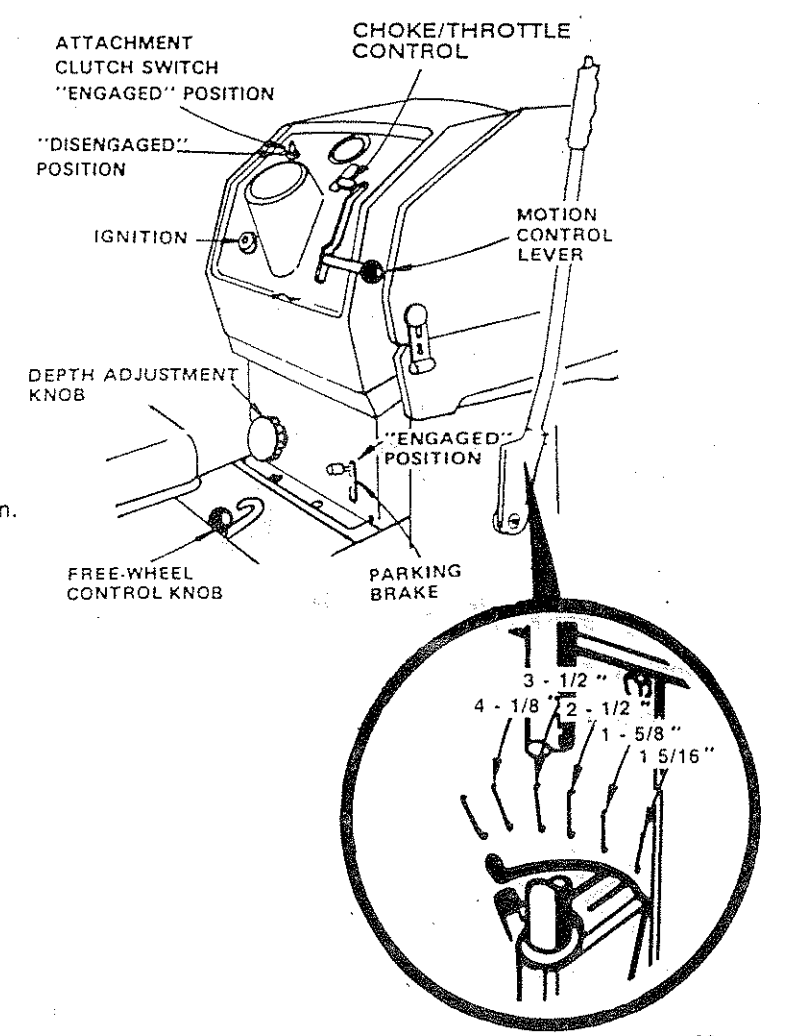

FIGURE 36
Your 38" Mower installs without the use of tools. Raise Lift Lever to its highest position. Turn Depth Adjustment Knob to lowest position (Fig. 36).
### DEPTH ADJUSTMENT (Fig. 36)
- Use Lift Lever to lower mower into cutting position. Start mowing in the slow speed and increase speed as ground conditions will permit. Average cutting height is approximately 2-1/2 to 2-3/4 inches. Height of cut can be adjusted by means of the Depth Adjustment Knob (Fig. 36). Moving the Knob clockwise (↻) raises the mower (Fig. 36). Moving the knob counterclockwise (↺) lowers the mower.